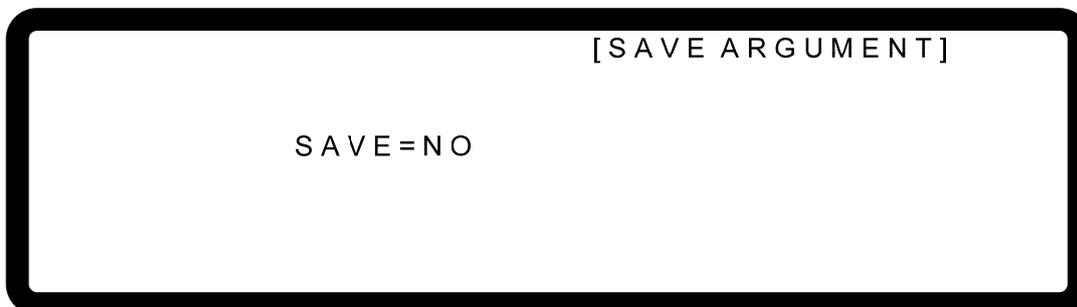

Figure 3-95
9. Now the voltage calibration is done. To save the calibration data, press “” will prompt a confirmation page as Figure 3-95 shows. Press “” or “Rotary” (⊙) to set SAVE=YES and press “” to save it. If there is no need to save it, press “” to return to the Calibration screen.